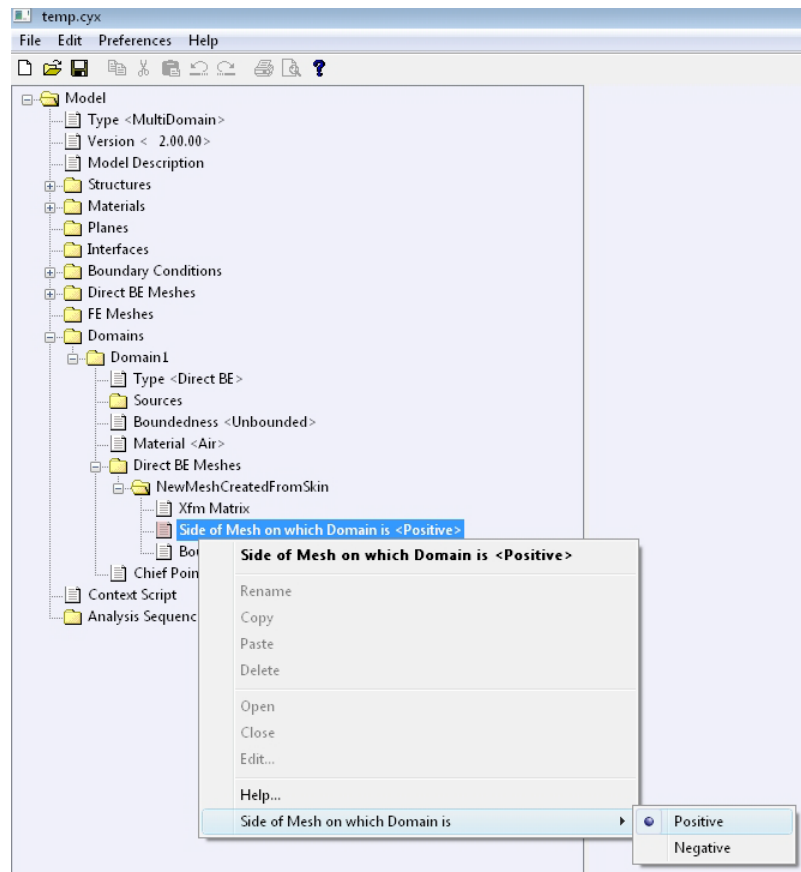

Figure A.22 Set the side of the mesh on which the domain is.
- Select: **Model** → **Domains** → **Domain1** or *<Domain Name>* → **Direct BE Meshes** → **NewMeshesCreatedFromSkin** → **Side of Mesh on which Domain is**. Right-click on **Side of Mesh on which Domain is** and select: **Side of Mesh on which Domain is** → **Positive** as shown in Figure A.22.